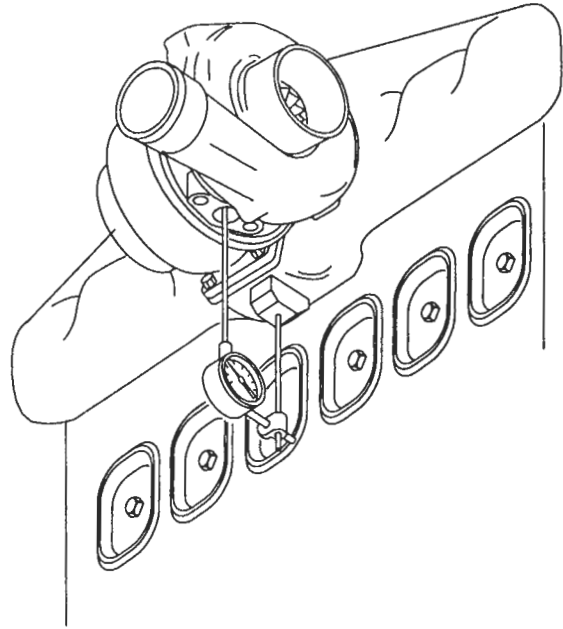

Figure 37. Indicator Mounting for Checking Shaft Radial Movement
- e. The difference between the two readings is the total clearance between the shaft and the bearings. The specified clearance between the shaft and the bearings is .003 to .007 inches. Repeat Steps d and e several times to be sure the readings are accurate. The shaft radial movement (bearing clearance) may be checked with the turbocharger assembly attached to the engine by mounting the dial indicator adaptor J 21224 and the dial indicator (Figure 37.)